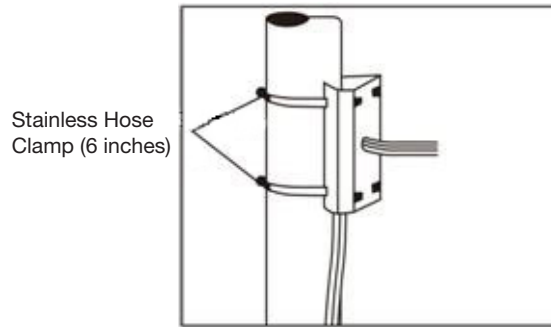

Fig. 9
a. As shown in Fig 9, use the stainless hose clamps to fix the pole mounted attachment with all cable through it on the pole structure.